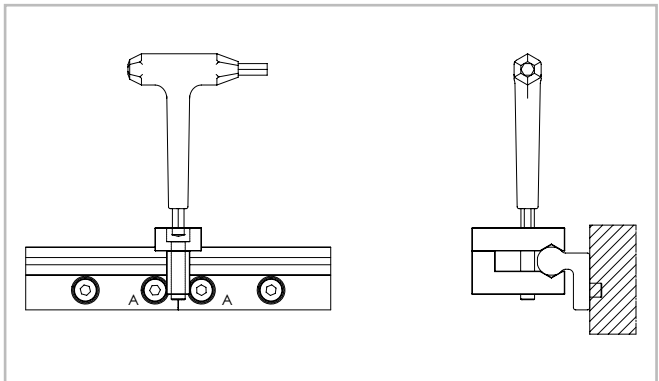

Fig. 29
- (3) Place the alignment fixture on the rail joint and tighten both set screws uniformly, until the raceways are aligned (see fig. 29).
- (4) After the previous step (3) it must be checked if both rail backs lie evenly on the mounting surface. If a gap has formed there, this must be shimmed.